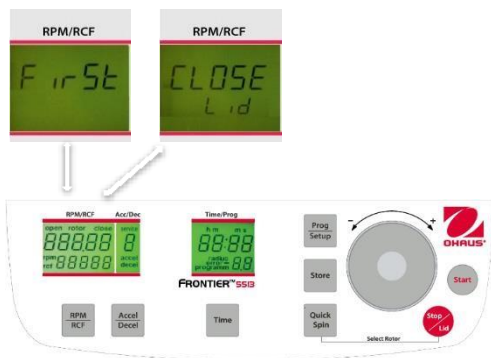
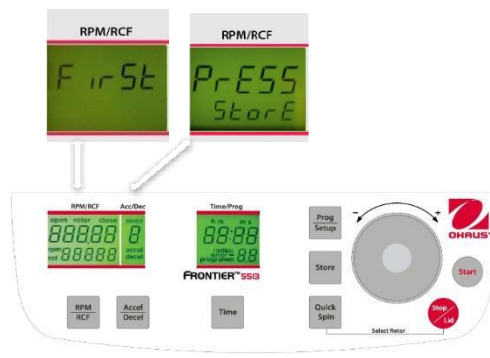

Figure. 20
Figure. 21
Close the lid of the centrifuge. Now proceed as described previously to set all important run parameters. If the lid isn't closed when storing the program, in the display "RPM/RCF" (A-1), the words "FirSt" and "CLOSE Lid" (see figure 20) flashes alternately. If you want to start the run without storing the program, in the display "RPM/RCF" (A-1), the words "First" and "PrESS StoreE" (See figure 21) flashes alternately.
For adaption of data press the key "Store" (2) (refer to figures 20 and 21) for approx. 1 second. If the program is stored correctly, the word "StorE" appears in the display "RPM/RCF" (A-1). As a result, the word "programm" (M10) disappears.
You can start the centrifuge either with the **"Start"** key (10) (refer to figure 21) or the **"Quick Spin"** key (8).